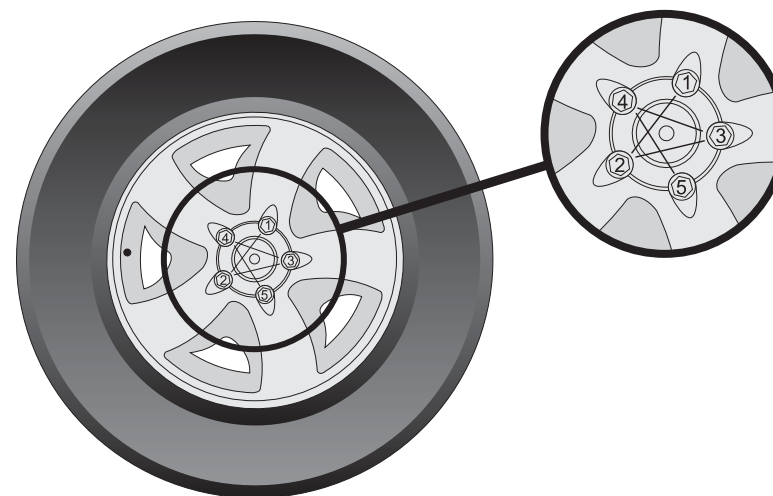

FIGURE 3-6
13. Before use and after the first 100 miles, torque the lugnuts to 90-95 ft./lbs. Lug nuts must be tightened in a star criss-cross pattern (Figure 3-6) to ensure uniform pressure and alignment. Apply torque evenly by repeating star pattern until desired torque is reached.